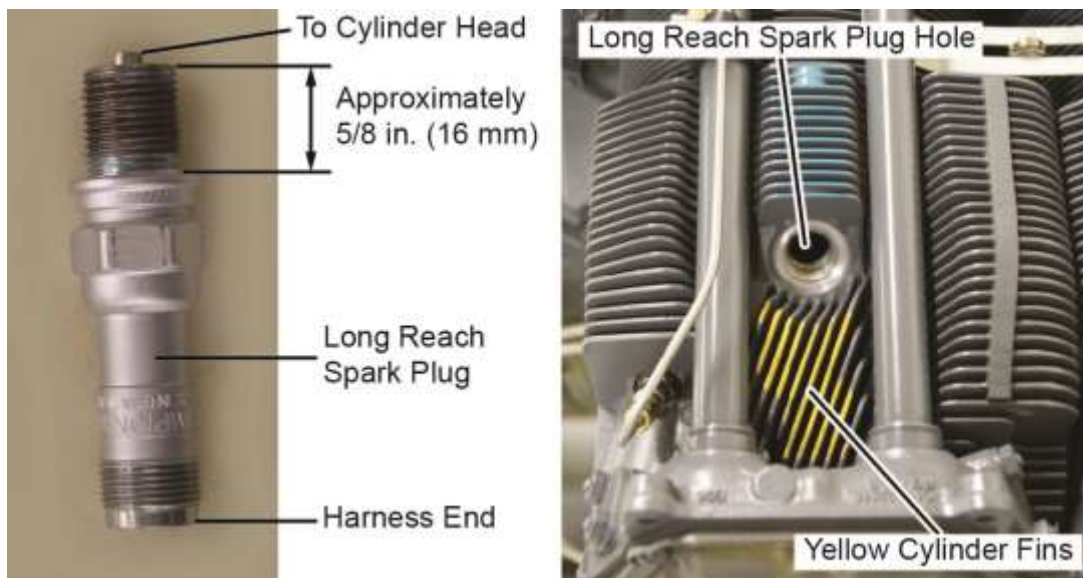
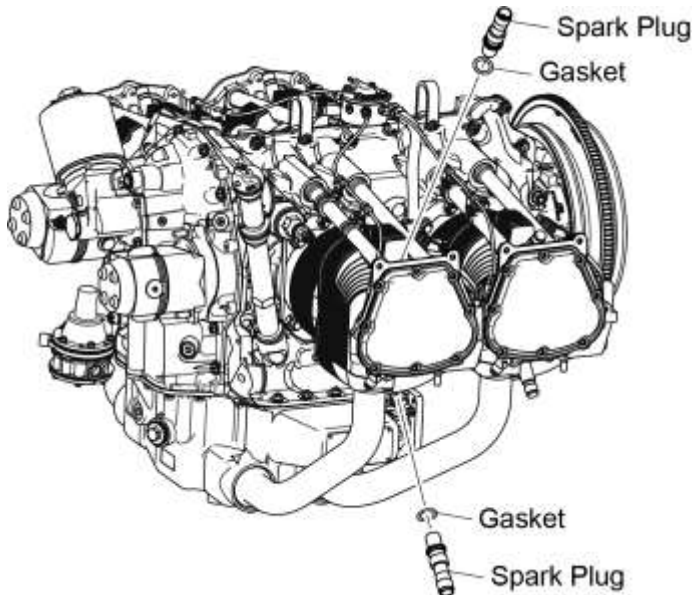

Figure 1
Figure 2
- (1) Put a fuel collection container under the fuel manifold.
- (2) Identify the fuel line ports on the fuel manifold (Figure 1).
- (3) Apply a label and disconnect all fuel lines attached to the fuel manifold.
- (4) Let fuel drain out of the fuel manifold and fuel lines into the collection container.
- (6) Remove the bolts, screws, lock washers, bracket, and the fuel manifold from the fuel injector (Figure 1). Discard the lock washers.
- (7) Remove the fuel collection container.
- (1) Install the fuel manifold and the bracket (Figure 1) on the fuel injector with the hardware fasteners. Torque the bolts and screws on the bracket to 25 to 30 in.-lbs (2 to 3 Nm).
Two long reach spark plugs (Figure 1) are installed on each cylinder head (Figure 2) of the engine for a total of eight spark plugs per engine.
NOTICE: Typically engines with long reach spark plugs are identified by yellow paint on the cylinder fins between the spark plug hole and the rocker covers where shown in Figure 1.
- E. Use the applicable sized socket on top of the spark plug and turn the socket to remove the spark plug from the engine cylinder head (Figure 2).
- G. Remove and discard the gasket from the spark plug (Figure 2).